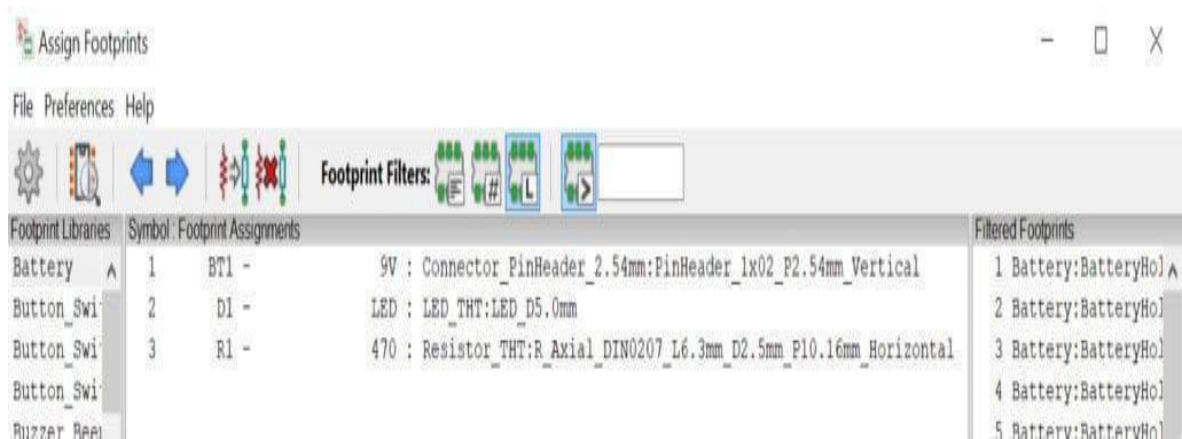

Figure 12.19 Sample footprint selections for this circuit
- Double-click to choose one. You can see sample footprint selections in Figure 12.19